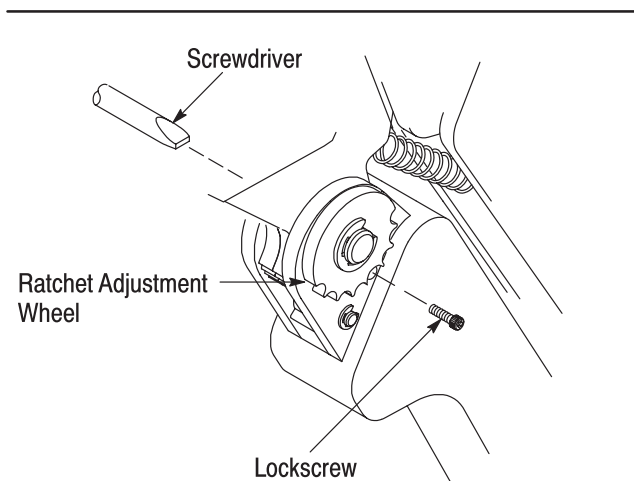

Figure 5
6. CRIMP HEIGHT ADJUSTMENT (Figure 5)
- Added Figure 5